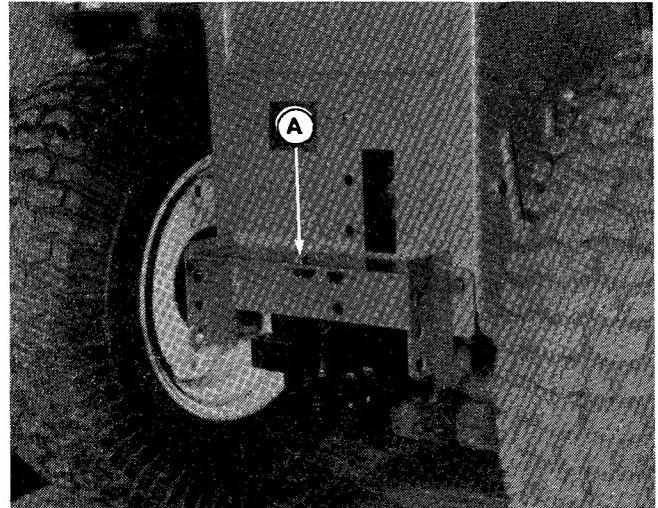

Figure 13.
1. Install the bracket to the back plate as shown in figure 13, using three 3/8-16 x 1 hex bolts, lockwashers and nuts. In the top, center hole (A) install a 3/8 x 3/4 bolt and 3/8 locknut to prevent bracket being used as a drawbar.
2. Install the decal, part number 1700346 (see first page) to top of bracket beside hole (A, figure 13).